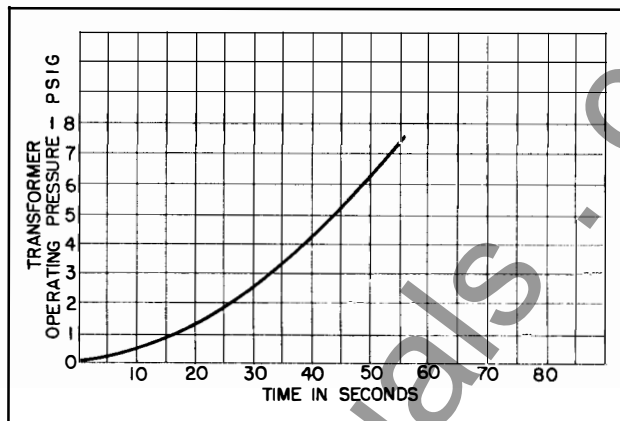

FIG. 5. Relay Operation Comparison Curve.
There is a definite relationship between the transformer gas pressure and the time required to equalize the pressures between the transformer and the relay. This relationship is shown graphically in Fig. 5 and is the basis for checking the operation of the relay.
6. Compare time (5) and transformer pressure (2) to Fig. 5. Any wide deviation of field test points should be referred to the nearest Westinghouse Office.